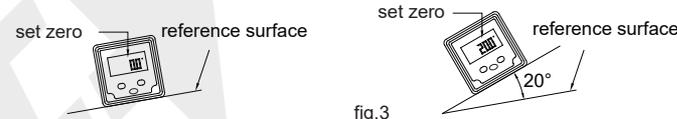

fig.3
- Put on the reference surface, press 'ABS/INC' button, the reading is zero and there is no 'ABS' on the display and the instrument is in relative mode. Move the instrument to the measured surface, the reading is the angle between the measured surface and reference surface(Fig.3).